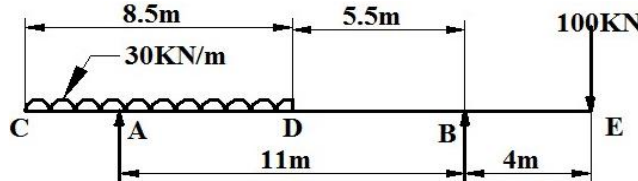

Figure 24
13. Draw shear force and bending moment diagram for the beam loaded as shown in the **Figure 24**.